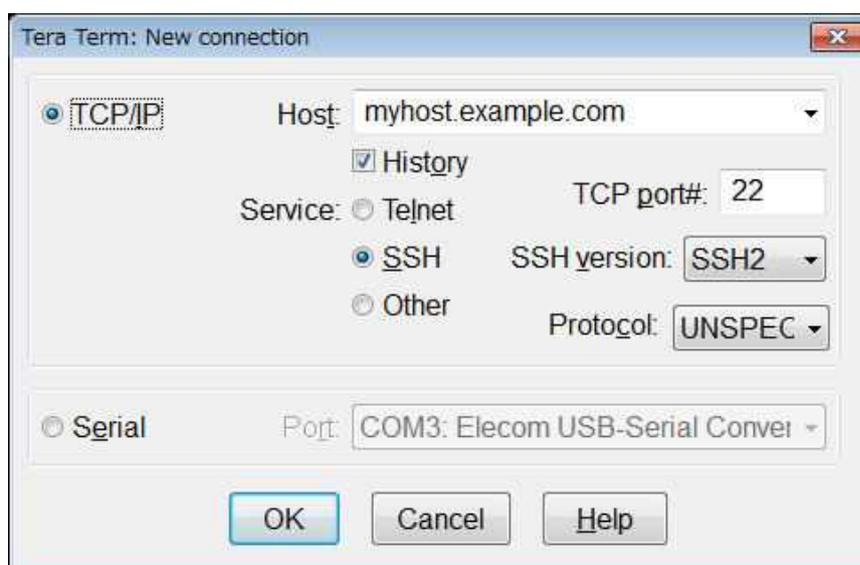
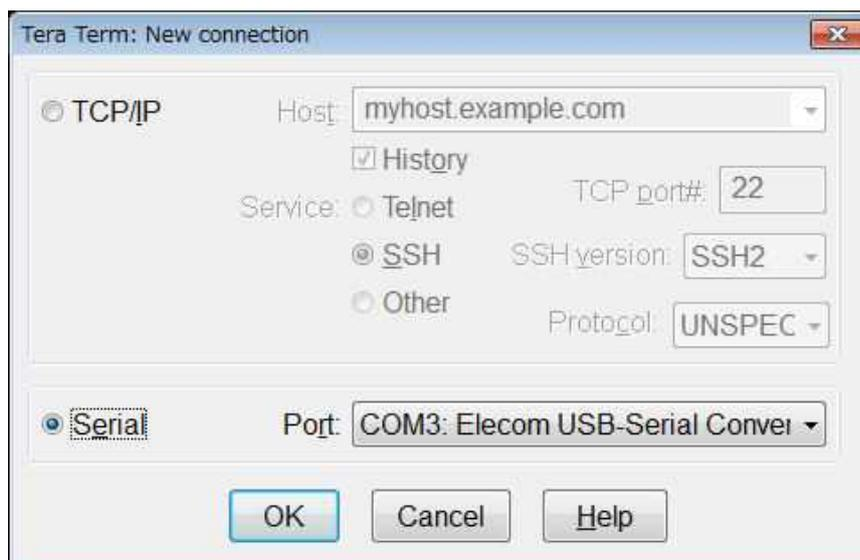
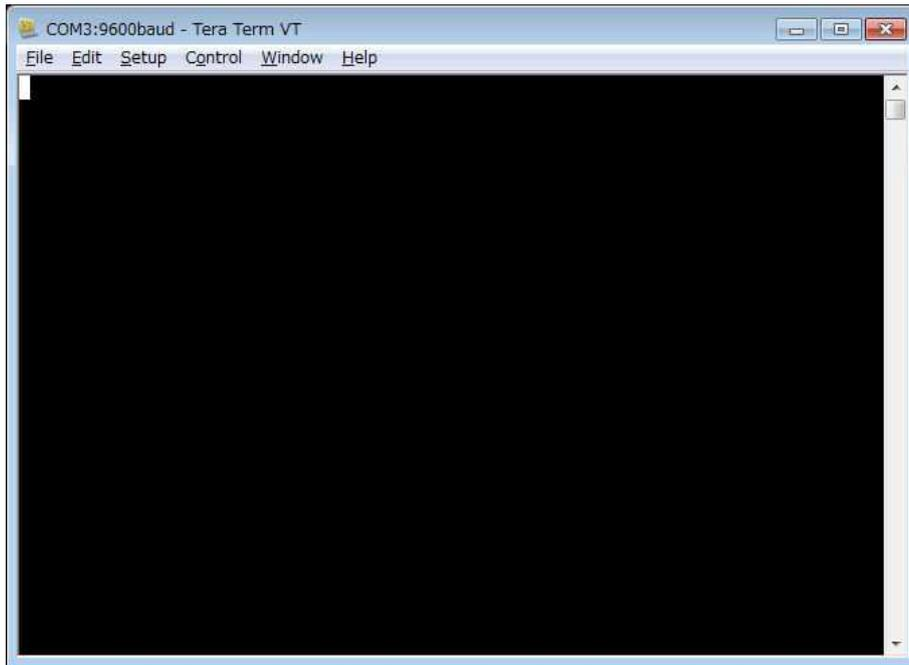

Fig. 4-1
Fig. 4-2
Fig. 4-3
- (1) Activate the Tera Term. Then, the window shown in Fig. 4-1 will appear. Select the “Serial,” as shown in Fig. 4-2, to select the port type. Press the “OK button,” and then the screen shown in Fig. 4-3 will appear.